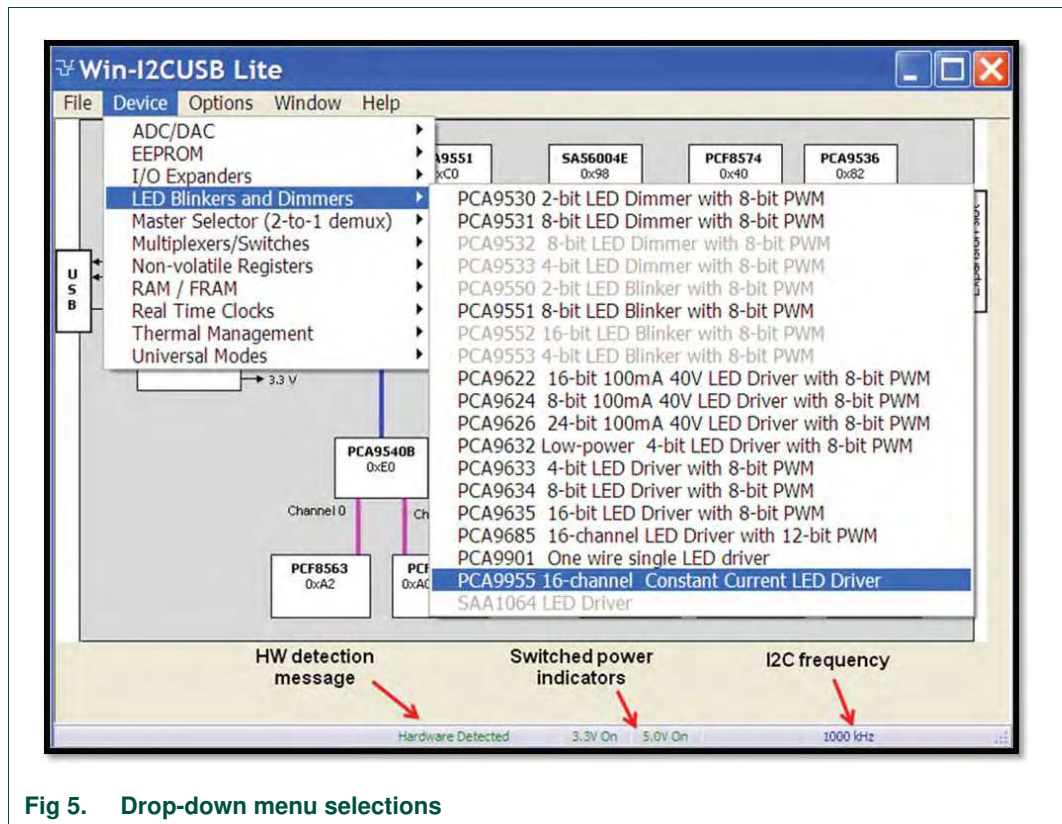

Fig 5. Drop-down menu selections
Connect the hardware as described in Section 4. The PCA9955 demo board address is set to 0xC0 on SW1 as A[0:3] = SW1[1:4] = 0000 (0 → ON, 1 → OFF). When you have correctly installed the software and the demonstration board hardware is connected and recognized by the computer, start the Win-I2CUSB Lite software. As shown in Figure 5, when the demonstration board hardware is correctly connected to the USB port and the computer recognizes it, the message 'Hardware Detected' is displayed on the bottom of the window.
- From the 'Device' drop-down menus, select 'LED Blinkers and Dimmers', and from the subsequent drop-down menu select 'PCA9955 16-channel Constant Current LED Driver' as shown in Figure 5.